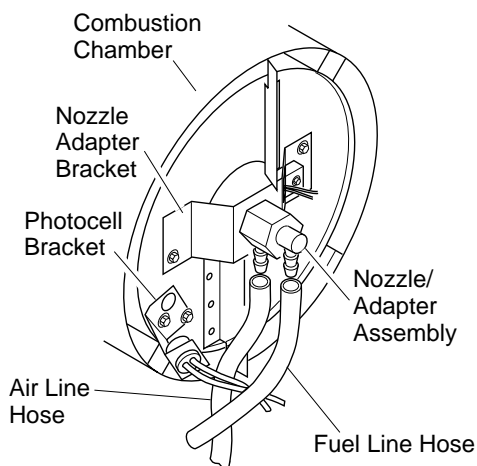
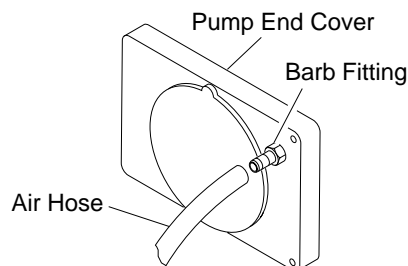

Figure 17 - Removing Air and Fuel Line Hoses (REMSA35H and REMSA70H Models Only)
Figure 22 - Air Hose to Barb Fitting
14. Replace photocell in photocell bracket. Route wires as shown in either Figure 17, 18, or 19, page 11.
3. Remove fuel and air line hoses from nozzle assembly (see Figure 17, 18, or 19).
4. Inspect fuel and air line hoses for cracks and/or holes. If fuel line hose is damaged, disconnect from nozzle adapter (see Figure 17, 18, or 19) and from fuel filter (see page 8). If air line hose is damaged, disconnect from nozzle adapter (see Figure 17, 18, or 19) and from barb fitting on pump end cover (see Figure 22).
5. Install new air and/or fuel line. Attach one end of air line hose to barb fitting on pump end cover (see Figure 22) and the other end to nozzle adapter (see Figure 17, 18, or 19). Attach one end of fuel line hose to fuel filter (see page 8) and the other end to nozzle adapter (see Figure 17, 18, or 19).
For REMSA35H and REMSA70H model heaters, route air and fuel lines approximately as shown in Figure 17.